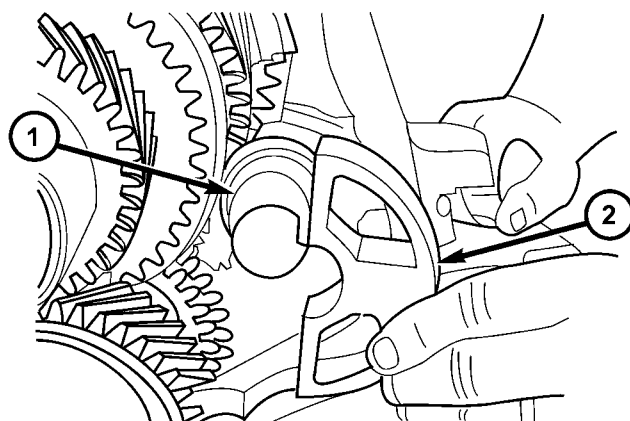

Fig. 25 IDLER SHAFT SUPPORT
(11) Slide reverse idler shaft support (Fig. 25) straight out of housing.